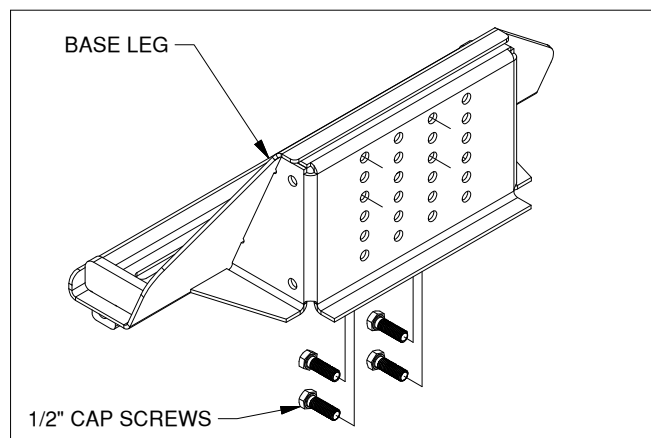

Figure A2: View of base leg.
2. Locate both base legs and eight 1/2" cap screws, Identify the mounting holes needed to mount the arms in their optimal location. Pass four 1/2" cap screws through the bottom of the base into the bolt plate, as shown in Figure A2.